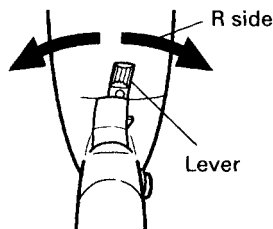

Fig. 2
6. Confirm the direction of bit rotation (Fig. 2)